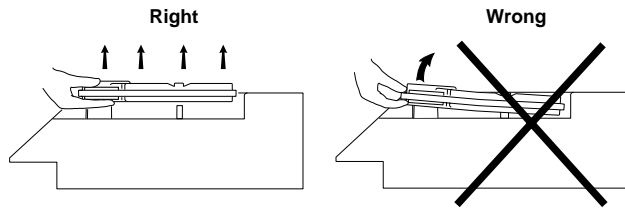

Figure 9-1: Removing the Carrier
- Remove the carrier by placing your hands under it, palms up, and firmly lifting straight up. Apply sufficient upward force to free tape guides from posts. See Figure 9-1.
- Open the tape load lever and carefully remove carrier (See Figure 9-1).